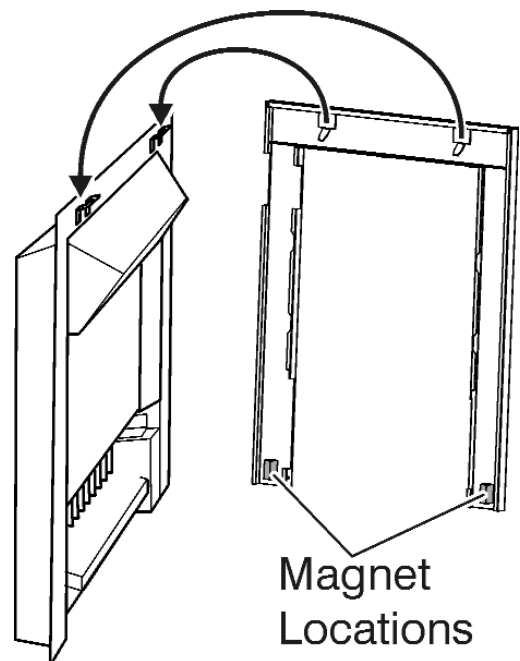

Figure 14. Fitting the fascia.
1. The magnets may have moved in transit. Locate the magnets as in figure 14.
2. Fit the fascia to the heater by hooking the brackets on the rear of the fascia over the brackets on the heater. Be careful to keep the magnets at the bottom of the fascia away from the heater until the hooks are in place (See figure 14). Then allow the fascia magnets to secure the bottom of the fascia to the heater.